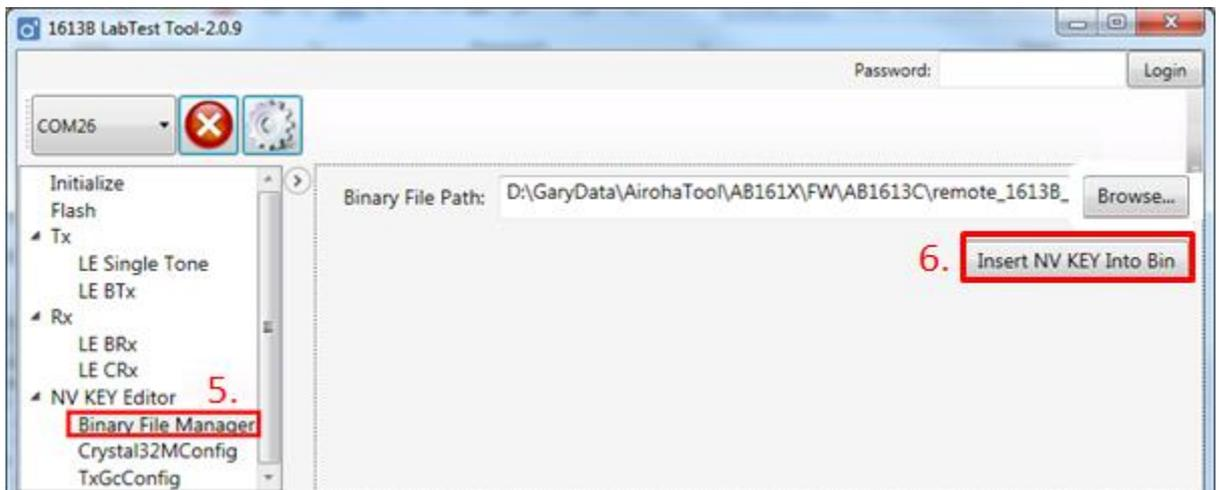

Figure 14. Tool setting
- 5) Click the “Binary File Manager “button, as shown in Figure 14.
- 6) Click the “Insert NV Key into Bin” button to create the new FW, as shown in Figure 14.